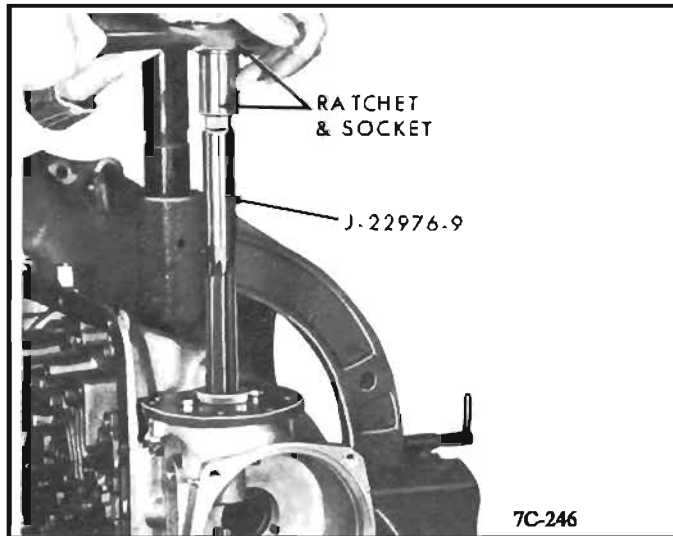

Figure 118 Reamer
b. Use 7 lbs. of feeding force on the reamer. See *Figure 118*.